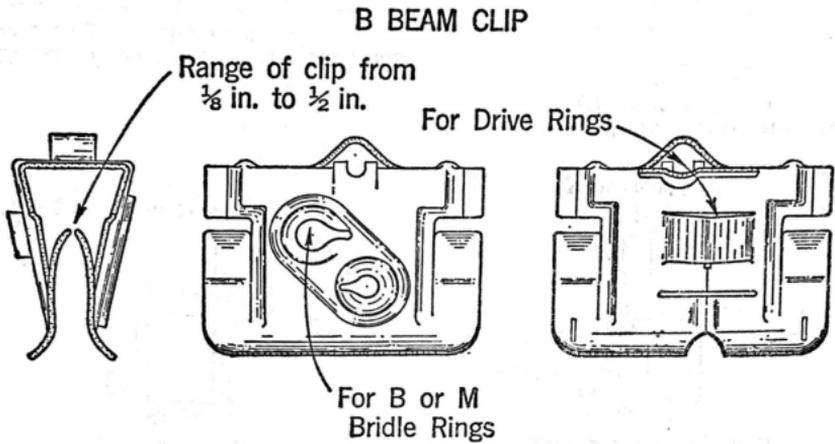

Fig. 8
6.02 The B Beam Clip can be used on flanges ranging from 1/8 inch to 1/2 inch thick as indicated in Fig. 8 whereas Insulator Supports can be used on flanges up to 1 inch thick.